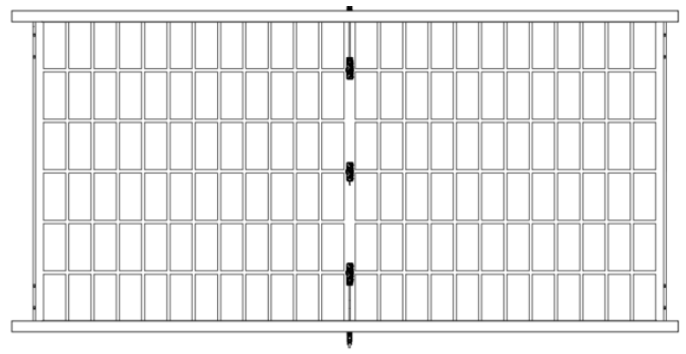

Figure 4
- ② While installing, the module frame should be parallel to the mounting rack to avoid casting shadow on the rear side, as shown in figure 4.